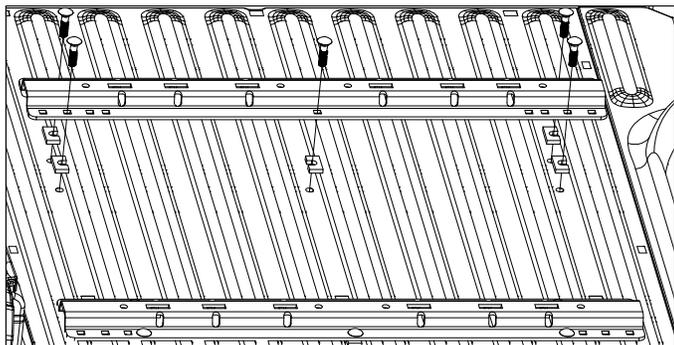

Figure C3: View looking into truck bed from rear of truck.
4. **The forward mounting rail.** Re-position the forward mounting rail over the drilled 9/16" holes in the bed. Install five 1/2" X 2" carriage bolts through the five drilled positions, as shown in figure C3. Place a U-shaped washer between the bed and the mounting rail at the five drilled positions.